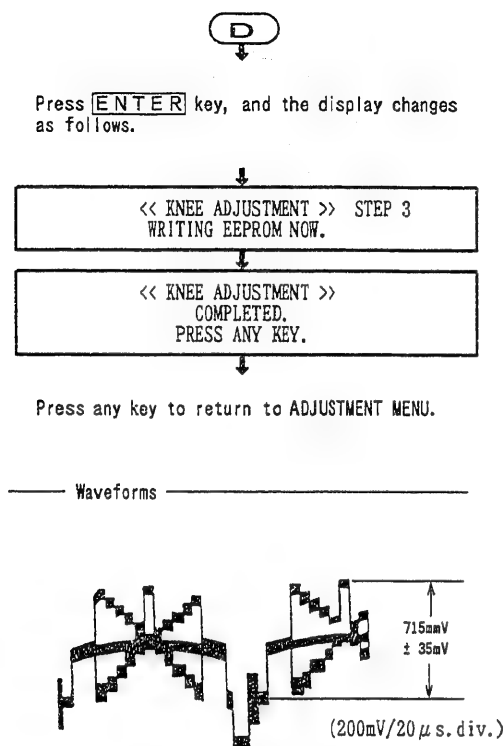

Fig. 2-18
(2) Knee Adjustment (Fig. 2-18)